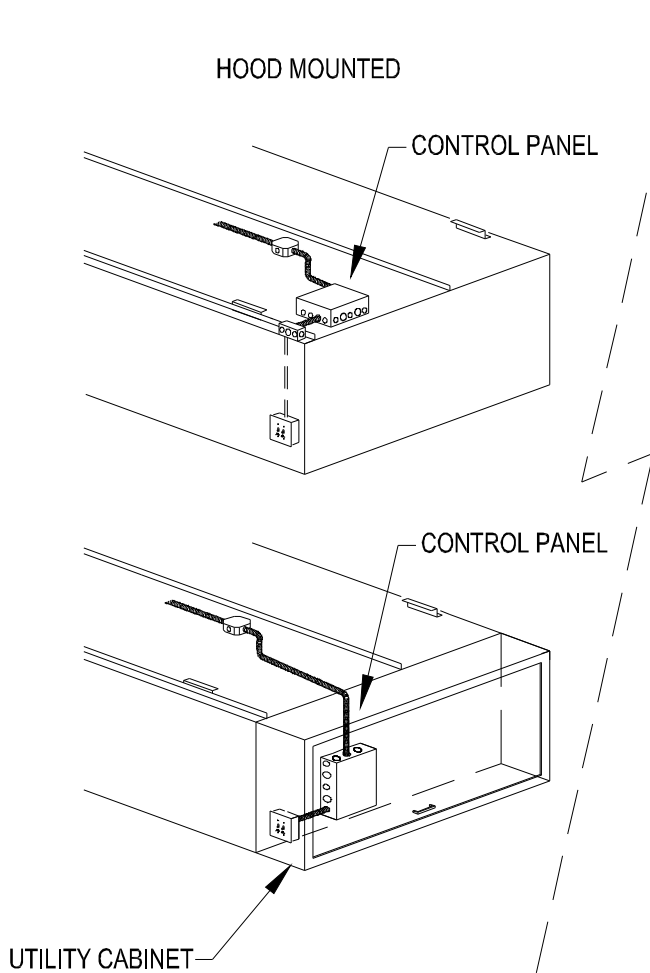

Figure 1
- For hood mounted wiring packages, the control panel will be mounted in a utility cabinet or on top of the hood, switches will be located on the face of the hood or utility cabinet. (see Figure 1)